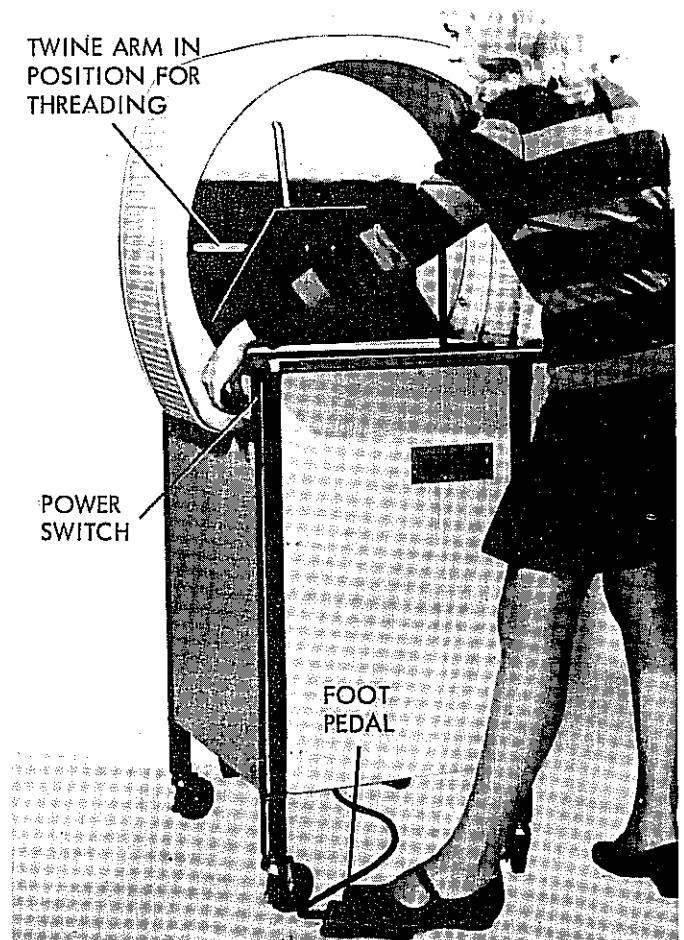

Figure 10. Positioning Twine Arm For Threading
3. Depress and hold foot pedal and continuously jog power switch "on" and "off" until twine arm is approximately in a horizontal position on left hand side of tying machine as viewed from front (figure 10). Release foot pedal and set power switch to "off" position.